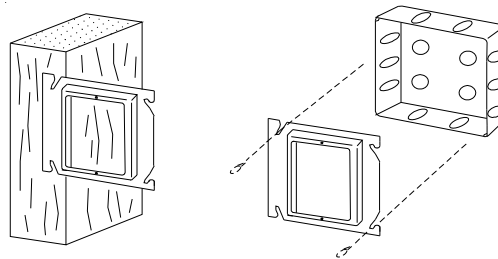

Figure 21 – Mounting SF Series Stations
**SF Series Peripheral Devices—General Information:** The SF series peripheral devices' electronics are mounted on flame retardant ABS plastic faceplates. SF series devices must be mounted within 50' of the patient station to which it will be connected. They are mounted on single-gang rings or boxes; see Figure 21 (minimum ring opening not to be less than 1¾" × 2¾"). Nylon mounting screws are provided with all SF series peripheral devices to ensure compliance to the latest UL® 1069 requirements, which now include ESD testing. The minimum clearance from current carrying parts to dead metal parts must be no less than 0.5". Plug-on connectors are provided for easy installation. See **Wiring Installation** section for additional details.